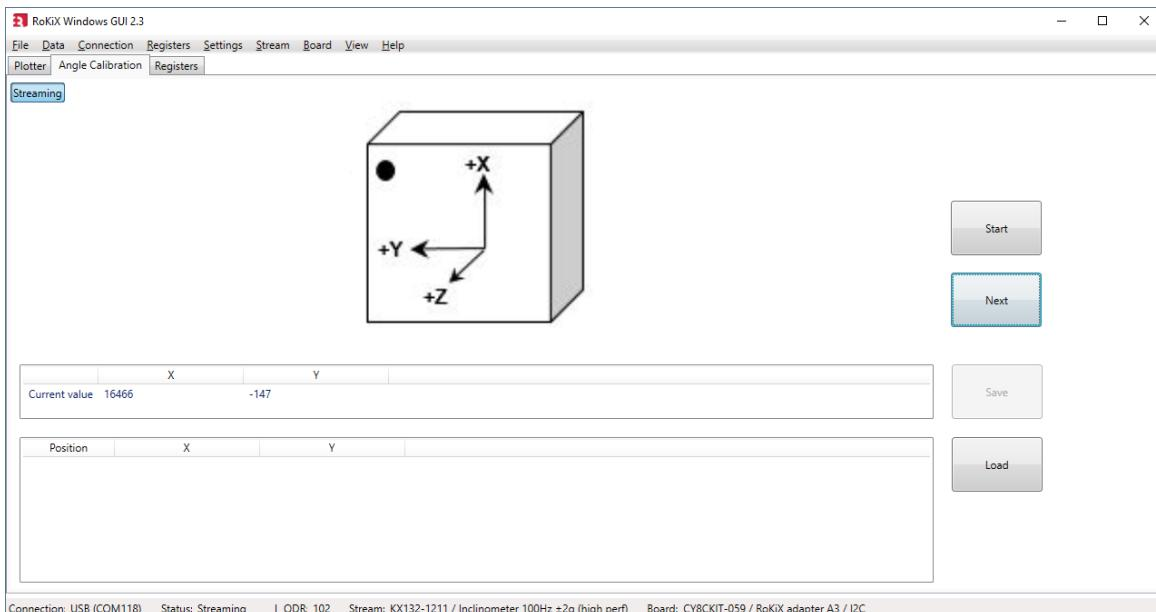

Figure 44: Angle Calibration. Position - 1
- Put the device in the 1st calibration position as displayed in the orientation diagram (Figure 44).